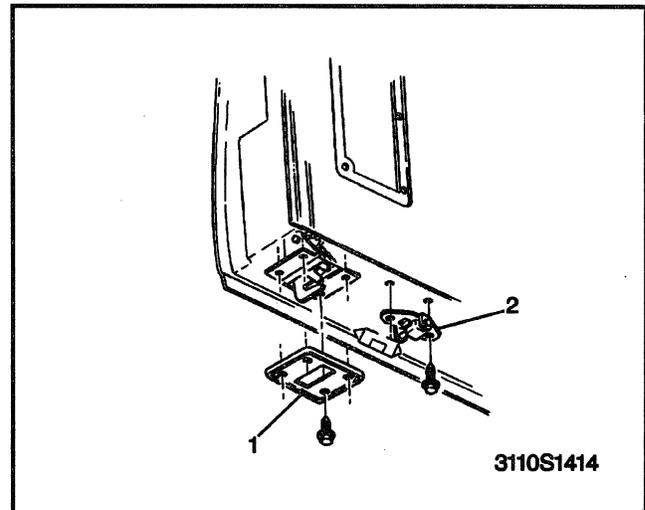

Figure 96—Lower Latch and Bumper
5. Control latch bolts and spacer (Figure 96).
6. Control latch from door (Figure 96).
1. Control latch to door (Figure 96).
2. Control latch spacer and bolts (Figure 96).
↔ Remove or Disconnect (Figure 96)
➡➡ Install or Connect (Figure 96)